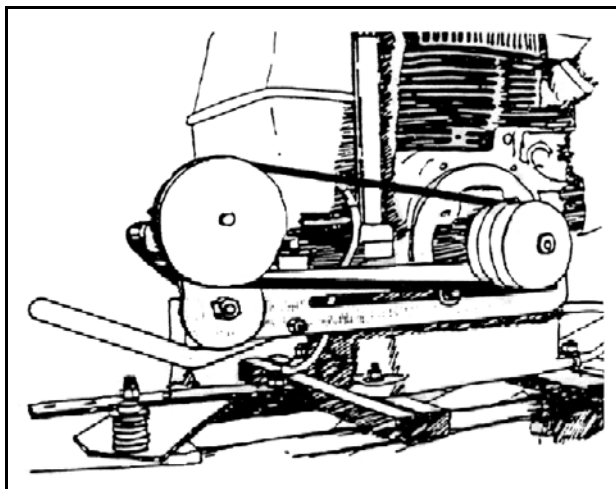
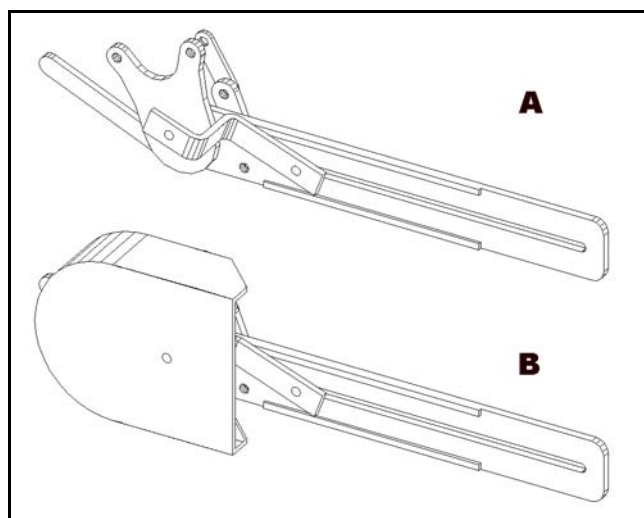

Figure 3.22
Figure 3.23
1. Install pump bracket and gear pump as illustrated in Figure 3.22, using the threaded holes on the block of the gas engine. The over-center pump bracket shown in Figure 3.23, part A is pre-assembled.
1. Bolt the pump guard bracket to the over-center pump bracket as shown in Figure 3.23, part B. The bracket should be installed at the pump end of the long, adjustable slot, through the middle of the over-center bracket (Figure 3.23, part A).
3. Attach the pump guard to the pump guard bracket (Figure 3.23, part B). Align the pump guard with the belt that runs between the pump and the engine. The pump guard bracket may need to be adjusted to achieve the appropriate angle. Ensure that there is adequate clearance between the belt and the pump guard, with belt engaged and disengaged.